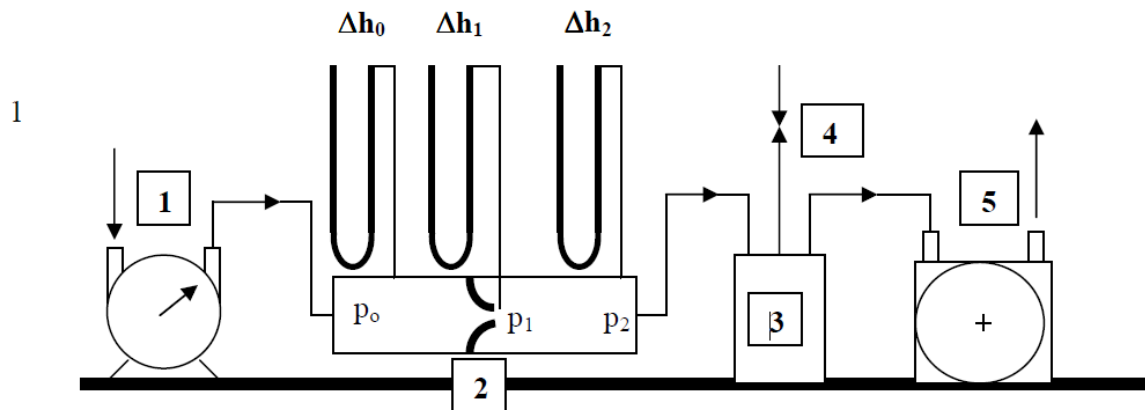

Fig 1 Layout of test stand to recognize adiabatic nozzle outflow
Experiment is carried out on test stand as shown in fig. 1. Ambient air with pressure “ $p_0$ ” and temperature “ $T_0$ ” goes through a flow-meter (1) to the nozzle (2). Flow is made by vacuum pump (5) which gives negative pressure “ $p_2$ ” out of nozzle. This pressure is controlled by valve (4) at the tank (3).